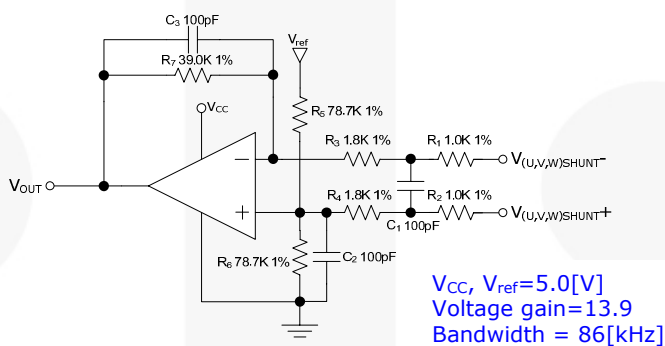
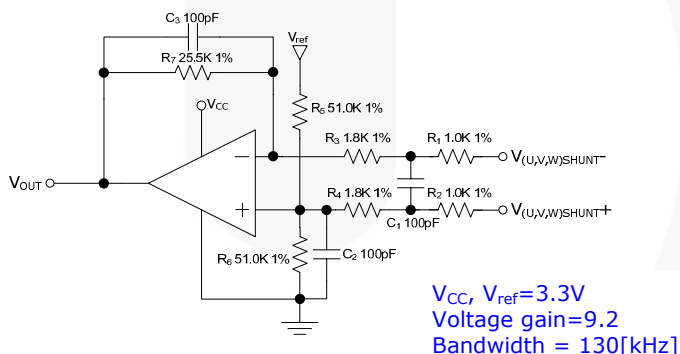
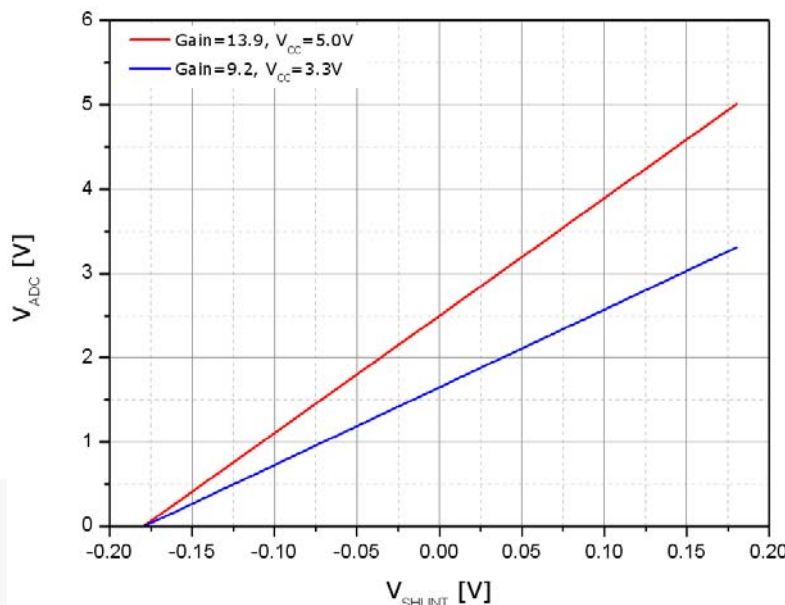

Figure 5. Application Circuit of Current Sensing ($V_{CC}=5.0\text{V}$, Voltage Gain=13.9)
Figure 6. Application Circuit of Current Sensing ($V_{CC}=3.3\text{V}$, Voltage Gain=9.1)
Figure 7. V_{ADC} (Input Voltage of AD Converter of MCU) vs. V_{Shunt} (Voltage of Shunt Resistor) in Current Feedback Circuitry (Figure 5, Figure 6)
The value of application circuit is calculated by the following equations. In Figure 5, the output voltage of op-amp (V_{OUT}) can be calculated by:
- Components value: refer to Figure 5 and Figure 6
According to calculation conditions, Figure 5, and Equations 5 and 6, the voltage between shunt resistor (V_{Shunt,min}, V_{Shunt,max}) can be calculated by:
For low control voltage systems, such as V_{CC}=3.3V, the same consideration can be performed on the circuit shown in Figure 6. The circuit in Figure 6 has a same performance as the circuit in Figure 5. Figure 7 shows V_{Shunt} vs. V_{ADC} according to V_{CC} variation (3.3V, 5.0V) and gain of op-amp.